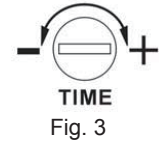

Fig. 3
7. Set the required delay with a screwdriver. The delay can be set from 10 sec to 3 min. Regulate the potentiometer clockwise to increase the time, and anticlockwise to reduce the time (See Fig. 3).